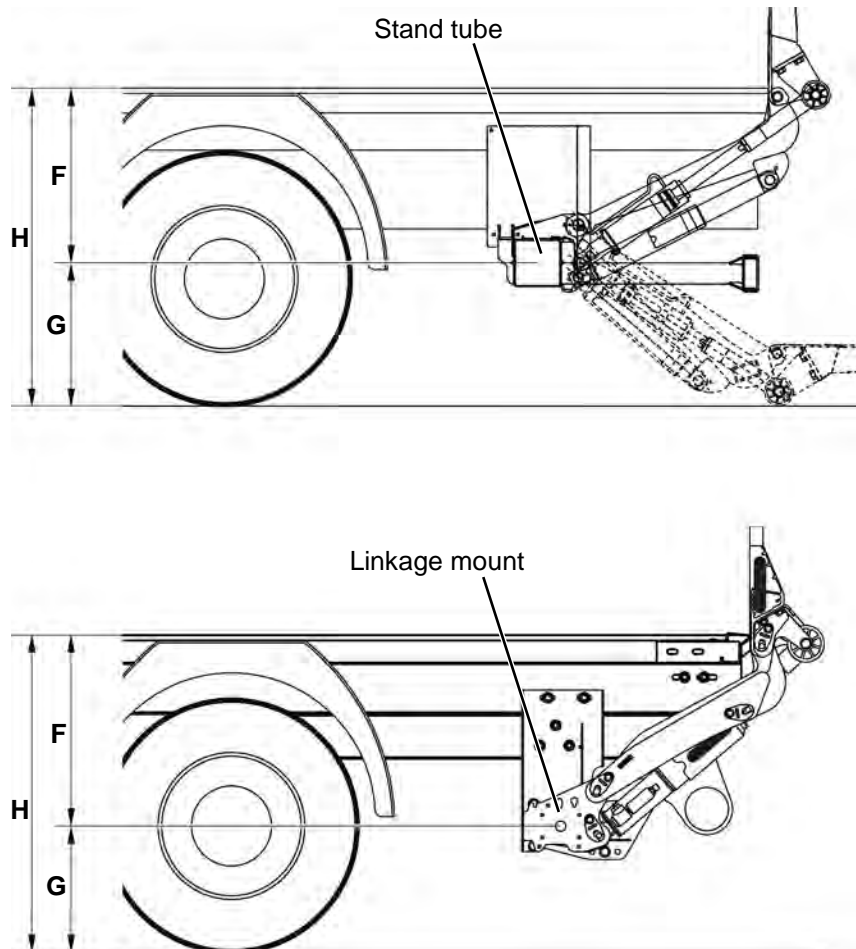

Figure 19: Positioning the stand tube / linkage mounts
- Position the stand tube / linkage mounts at a height according to the specified dimensions in the attachment report (dimensions "F", "G" and "H" in the attachment diagram, see Figure 19).